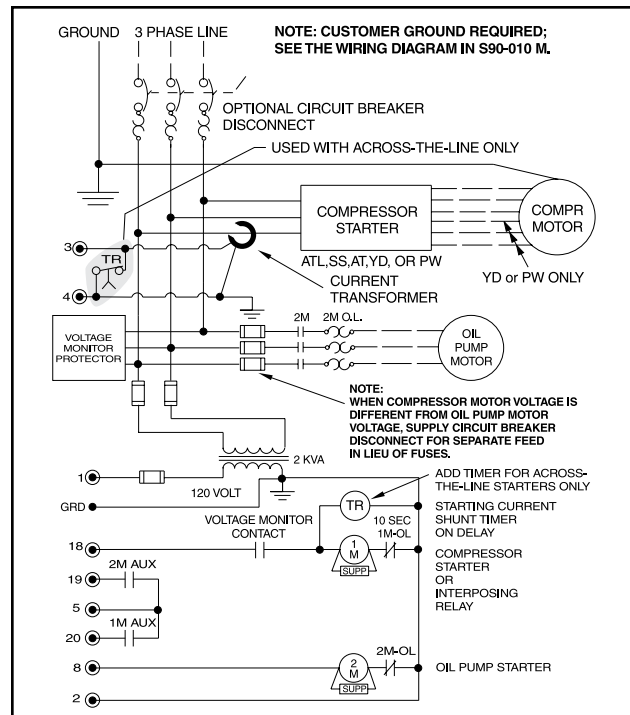

Figure 15
**SBC Board damage may occur without timer relay installed in control panel as shown in Starter Wiring Diagram, Figure 15. All Frick motor starter packages have the timer relay as standard.**
**Wiring Diagram, Figure 15. All Frick motor starter packages have the timer relay as standard.**
**damaged at start-up (see Starter Wiring Diagram, Figure 15).**
7. The compressor motor Current Transformer (CT) is installed on any one phase of the compressor leads.
**CURRENT TRANSFORMER (CT) RATIOS**